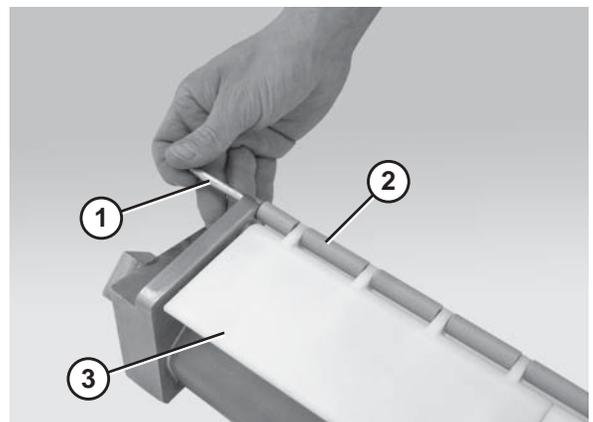

Figure 72
5. Remove the nose bar shaft (Figure 72, item 1), the rollers (Figure 72, item 2) and the roller mounts (Figure 72, item 3).